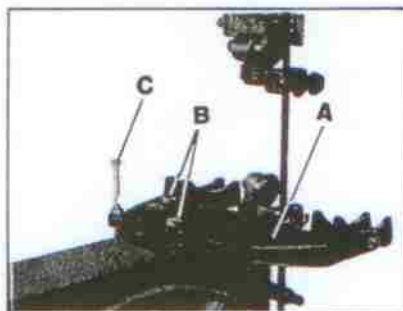

Fig. 13
Locate the assembled nut of the trunnion bracket (A) with two screws (B) and washers. Table supporting screw (C) is adjustable to support table properly. Fig. 13.